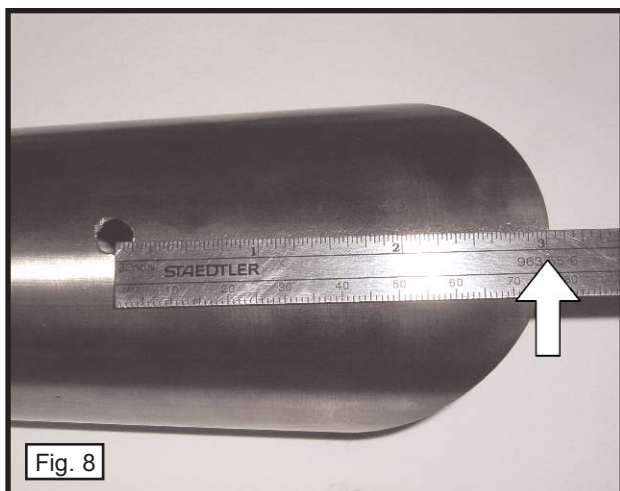

Fig. 8
- 5) Add 7/16" to the measurement taken in steps 3-4. On the outside of the GP1 megaphone, make a mark that is the measured amount from the highest point on the slash cut. (Fig. 8)
- 6) Carefully drill a 1/4" hole in the megaphone where you made your mark. Deburr the hole. (Fig. 8)